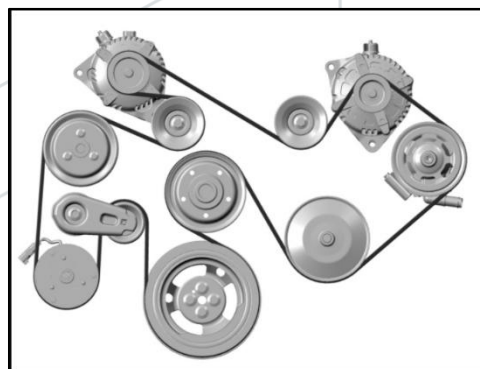
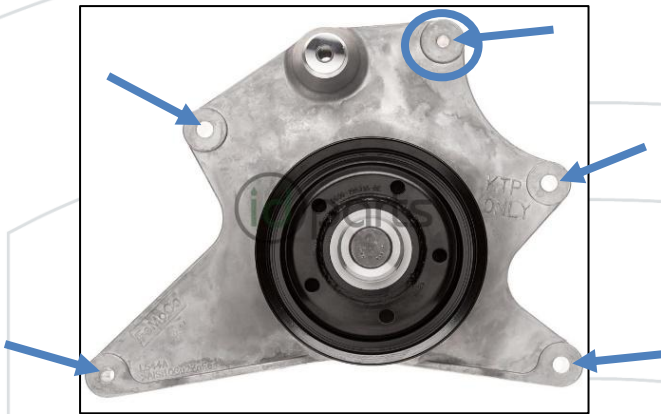

Figure 16: Belt Layout (Dual Alternator)
Figure 17: Cooling Fan Hub Bolt Locations
- a. Remove the top right bolt in Figure 17 holding the electrical bracket to the fan hub casting in Figure 16.
b. *NOTE: You can leave the fan connected to the bracket and remove the Fan Hub as an assembly if the fan is difficult to knock loose but the lower bolts are difficult to access with the fan on (Figure 17).*
28. Remove the remaining four bolts securing the cooling fan hub assembly (Figure 17).
13. Install the cooling fan hub mounting assembly. Torque the five mounting bolts to 18 lb-ft (Figure 17).
16. Connect the cooling fan electrical connector & bracket to the fan hub using the remaining long bolt (Figure 17).